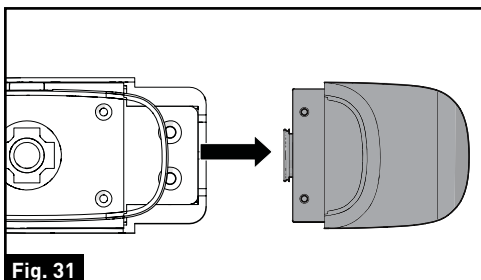

Fig. 31
4. Pull to remove the decorative part from traffic light and save in a safe place in case of future use. (Fig. 31)